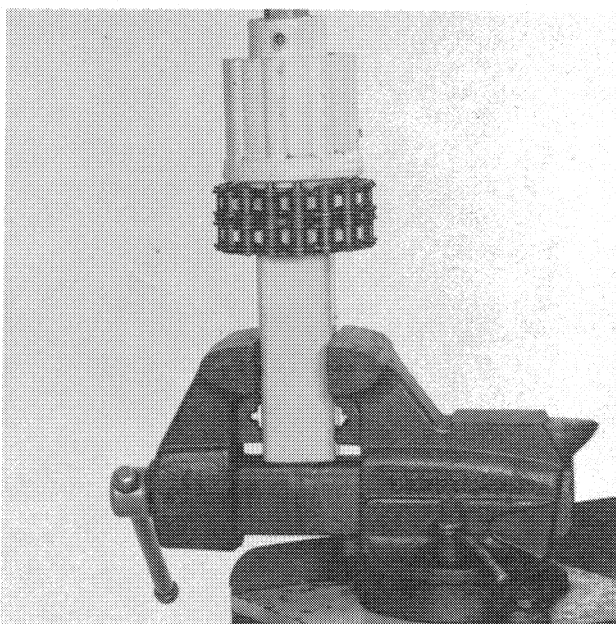

Figure 2-11
2. Attach the slip clutch to the sprocket using double 60 chain as shown in Figure 2-11.
A bar and spring scale could be used with the same clutch securing arrangement as shown in Figure 2-11.